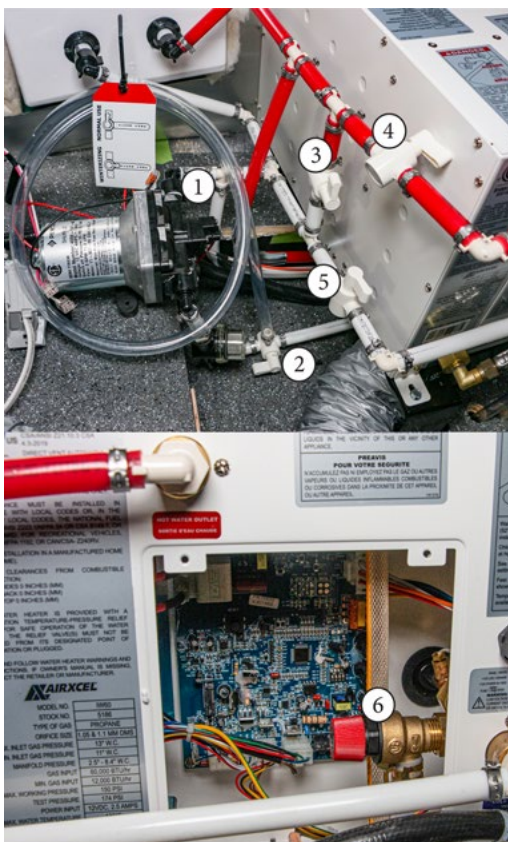

Figure 8.1 - water heater (located roadside under bench)
11. As shown above and in Figure 8.1 on the previous page, close the water heater inlet and outlet valves. Make sure the water heater bypass valve is open. It is not recommended to use air pressure on the water heater for winterization.